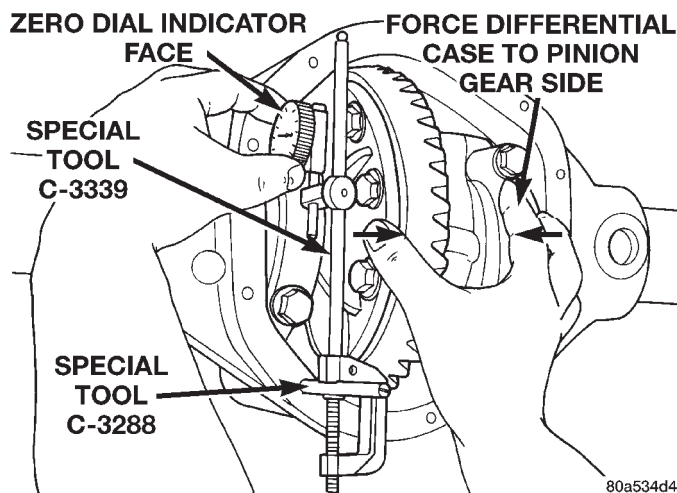

Fig. 69 Hold Differential Case and Zero Dial Indicator
- (10) Push and hold differential case to pinion gear side of axle housing (Fig. 69).
- (11) Zero dial indicator face to pointer (Fig. 69).